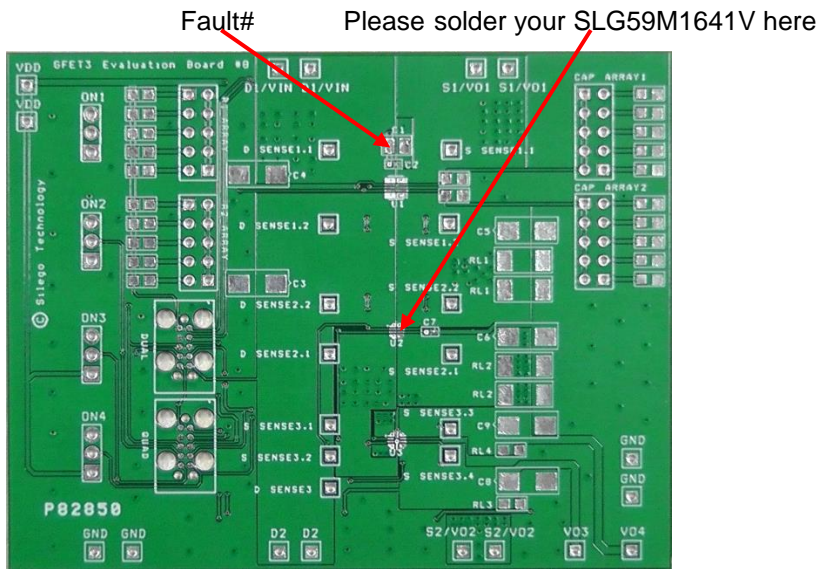

Figure 3. SLG59M1641V Evaluation Test Board
2.2. The D/VIN and S/VOUT pins carry significant current. Please note how the D/VIN and S/VOUT pads are placed directly on the power planes in Figure 3, which minimizes the RDS(ON) associated with long, narrow traces. The D/VIN and S/VOUT pins dissipate most of the heat generated during high-load current condition. The layout shown in Figure 3 is illustrating a proper solution for heat to transfer as efficiently as possible out of the device.